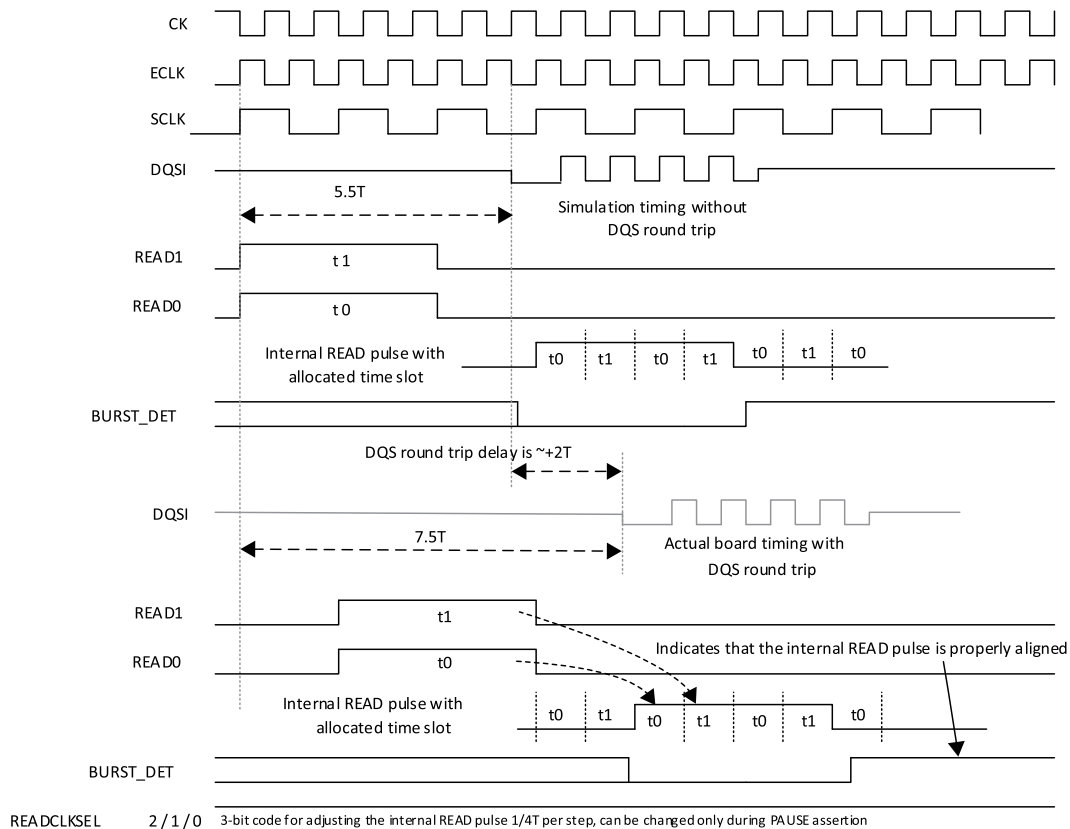

Figure 6.8. READ Signal Training Process
1. The memory controller sets READ1/0 to an initial position before starting the read pulse training. READ1/0 must be asserted for the number of SCLK cycles that is equal to one-fourth of the current read burst length, as listed in Table 6.3. Each READ bit (READ1 or READ0) in the system clock domain is translated to a 1T time slot of the memory clock domain, as shown in Figure 6.8.
- To shift the READ pulse timing window, READ1/0 can be moved to the next cycle. If a READ bit is asserted in the next cycle while the other READ bit remains in the current cycle, only the corresponding time slot on the READ pulse moves to the next allotted slot. Therefore, only READ0 must be moved to the next cycle, if the READ pulse needs to be shifted only by 1T. However, if only READ1 is moved to the next SCLK cycle, then the READ pulse gets two short pulses in wrong timing. Since READCLKSEL2/1/0 covers a whole 2T timing, it is recommended that both READ1 and READ0 be moved to the next cycle together to shift the READ pulse to the next 2T window as the example shown in Figure 6.8.
Figure 6.8 shows an example of a burst length 8 (BL8) read operation. The bottom side of the diagram indicates the case that the incoming DQS (DQSI) gets slightly more than 2T delay after a round trip. Due to this round-trip delay, both READ1 and READ0 need to be shifted to the next SCLK cycle so that the internal READ pulse gets a 2T shift. Then, the READCLKSEL2/1/0 signals can be used to fine-tune the READ signal position throughout the training process. When any of READCLKSEL2/1/0 is changed at any time after a system reset, the PAUSE input to DQSBUFM must be asserted before 4T of the change and remain asserted for another 4T after the change to avoid glitches and malfunction.